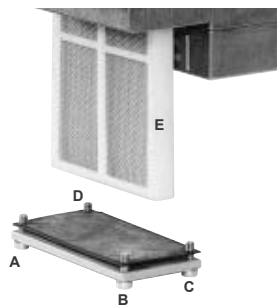

Fig. 45
- 2 Remove screws 1 ÷ 6 (Fig. 45).